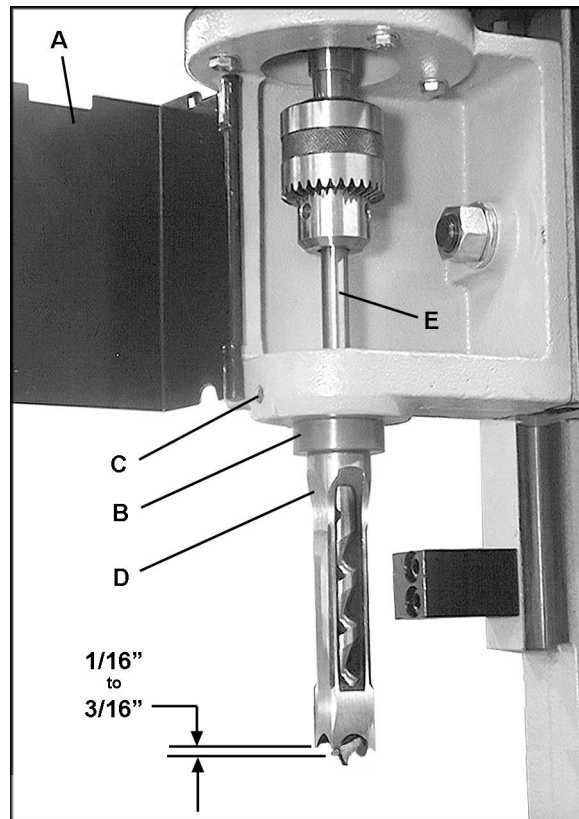

Figure 3
2. Open the chuck access cover (A, Figure 3).
3. Insert a bushing (B, Figure 3) into the hole with the bushing's hole facing the front toward the set screw (C, Figure 3).
4. Tighten the set screw (C, Figure 3) with a 4mm hex wrench just enough to hold bushing in place.
5. Place the chisel (D, Figure 3) and auger (E, Figure 3) beneath the bushing and allow the auger to rest upon the table while pushing the chisel up through the bushing.
7. Tighten the set screw (C, Figure 3) to hold the chisel in place, and remove spacer.
9. Loosen the set screw (C, Figure 3) and push the chisel all the way up until it contacts the bushing. This should provide the proper distance so that the cutting portion of the auger clears the chisel. Tighten the set screw (C, Figure 3).
10. Close the chuck access cover (A, Figure 3) before operating.